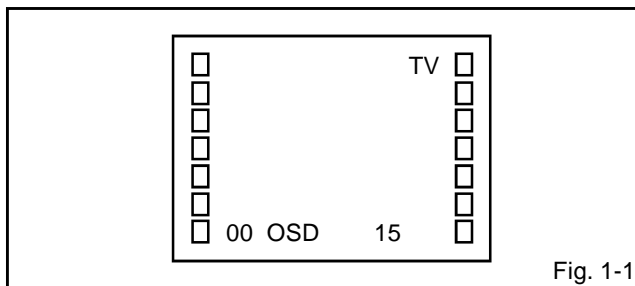

Fig. 1-1
1. In the condition of NO indication on the screen. Press the VOL. DOWN button on the set and the Channel button (**9**) on the remote control for more than 1 second to appear the adjustment mode on the screen as shown in **Fig. 1-1**.
4. Activate the adjustment mode display of **Fig. 1-1** and press the channel button (**02**) on the remote control to select "RF.AGC".
2. Activate the adjustment mode display of **Fig. 1-1** and press the channel button (**01**) on the remote control to select "CUT OFF".
4. Activate the adjustment mode display of **Fig. 1-1** and press the channel button (**10**) on the remote control to select "R.BIAS".